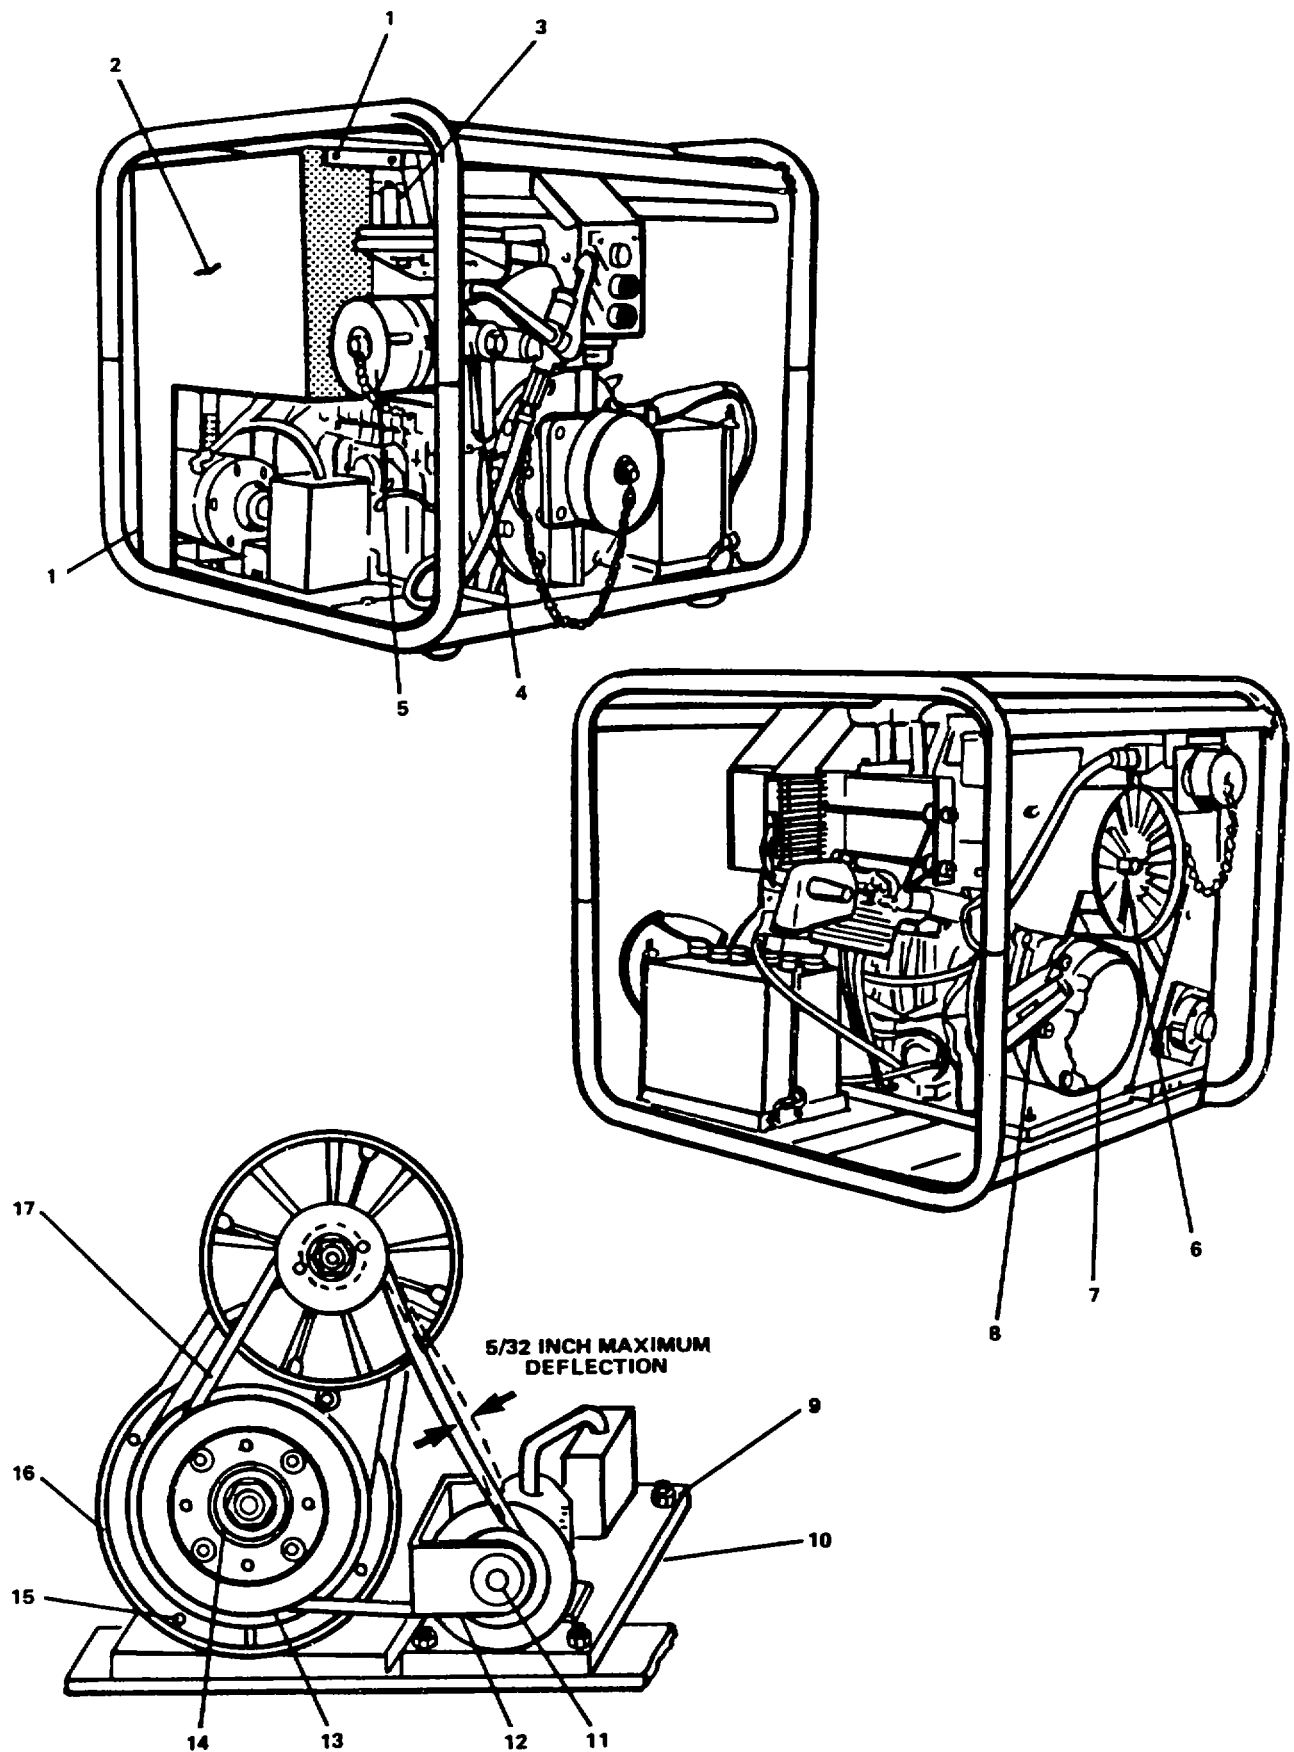
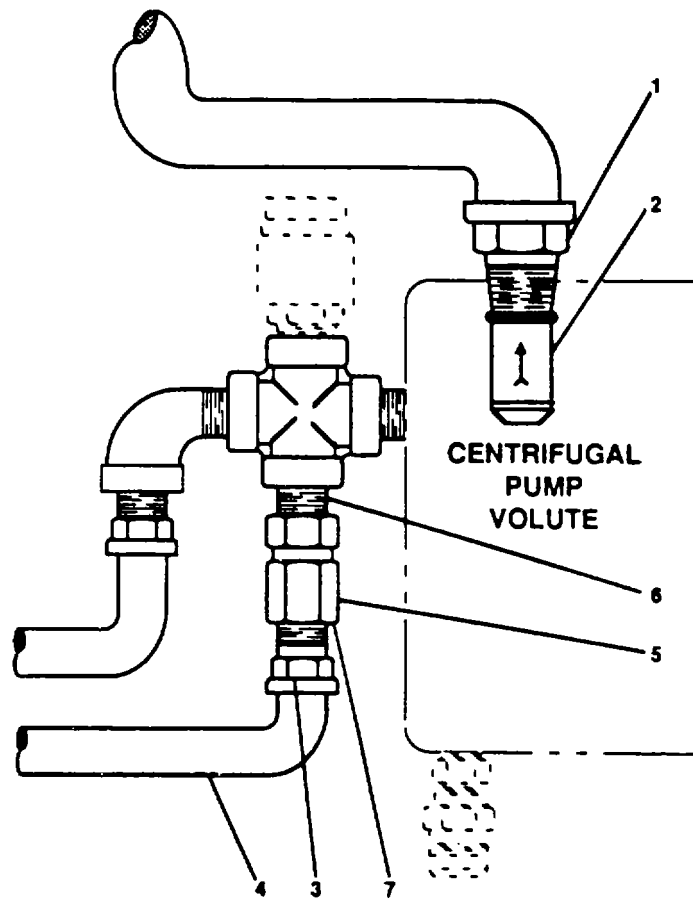
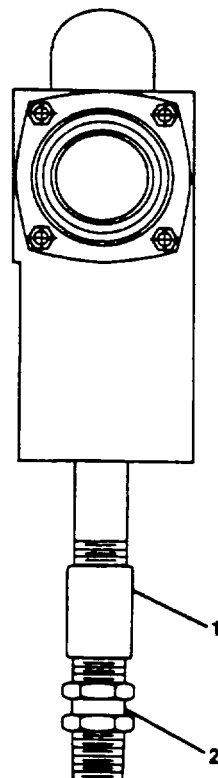

Figure 2-125. Repair Fire Fighting Pump.
Figure 2-126. Remove Check Valve (Pump Body).
Figure 2-127. Remove Check Valve (Muffler Exhaust Assembly).
- a. Remove three nuts (1, Figure 2-125) and remove fan belt guard(2).
- b. Remove four screws and fan cover (6).
- c. Loosen four bolts (9) on priming pump mounting bracket (10) .
- d. Loosen two bolts (11) on priming pump stabilizer bracket (12).
- e. Remove retractable starter (7) by removing three hex head bolts (8).
- f. Using a spanner wrench, hold fan pulley (13) and remove nut and washer (14).
- g. Unscrew and remove three hex head bolts (15) and remove starter pulley (16).
- h. Remove fan belt (17).
- a. Remove spark plug wire (3, Figure 2-125).
- a. Unscrew discharge cap and chain (5, Figure 2-125).
(1) Wash discharge valve carefully with general purpose cleaner. Salt or scale deposits on surfaces may be removed by using scale removing compound.
(2) Blow out and dry internal passage and hose fitting of discharge valve with filtered compressed air.
(3) Wipe external surfaces of discharge valve dry with clean wiping rag.
a. Hold nut (1, Figure 2-126) with wrench, unscrew check valve (2) counterclockwise and remove.
b. Loosen nut (3) and separate exhaust cooling pipe (4) from check valve (7).
c. Unscrew nut (5) and remove check valve (7) from nipple (6).
a. Remove three nuts (1, Figure 2-125) and remove fan belt guard (2).
a. Hold coupling (1, Figure 2-127) with pipe wrench and unscrew check valve (2) and remove .
Repair at this level of maintenance is by replacement of fan belt (17, Figure 2-125), spark plugs (3, Figure 2-125) discharge valve (4, Figure 2-125), check valves (2 and 7, Figure 2-126) and check valve (2, Figure 2-127).
a. Apply a thin coat of silicone compound to threads of check valve (2, Figure 2-127).
b. Hold coupling (1) with pipe wrench and screw check valve (2) into coupling in a clockwise direction until tight.
c. Install fan belt guard (2, Figure 2-125) and secure with nuts (1).
b. Screw check valve (7, Figure 2-126) onto nipple (6) until tight. Tighten nut (5).
c. Reconnect exhaust cooling pipe (4) to check valve (7) by tightening nut (3).
d. Screw check valve (2) into nut (1) until tight.
a. Install discharge valve (4, Figure 2-125).
c. Install discharge cap and chain (5).
b. Replace spark plug wire (3, Figure 2-125).
a. Install fan belt (17, Figure 2-125).
b. Install starter pulley (16) and secure with three hex head bolts (15).